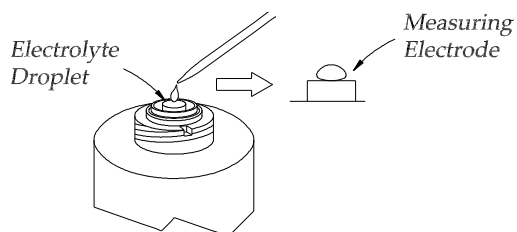

Fig. 4.2.8
9. Place a drop of fresh electrolyte carefully on the measuring electrode (fig. 4.2.8).